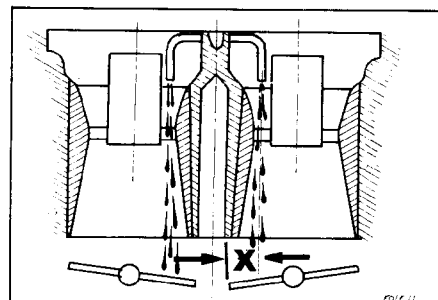

Fig. 9 Accelerator pump jets
- Operate accelerator pump and observe the direction of fuel jets relative to throttle plates. The fuel jets must hit the throttle plates as shown in Fig. 9. If dimension 'X' is outside specified limits, adjust by bending fuel nozzle to obtain correct setting. Refit carburettor upper body.